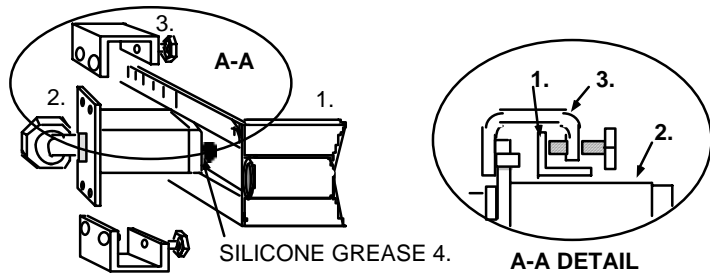

FIG. 4
10. Use the Allen wrench and turn the tension holder screw (10) counterclockwise until the probe holder is tight against the pipe.
Place a single bead of silicone grease (4) longitudinally along the PVC face of the sensor. Slide sensor (2) into sensor holder (1), note that the sensor cable (yellow) will be pointing toward the other sensor (Fig. 4). Use sensor clamp (3) and place the top over the sensor with nubs in sensor hole and place the bottom of the clamp on the bottom of the rail of the sensor holder. (See A-A detail)